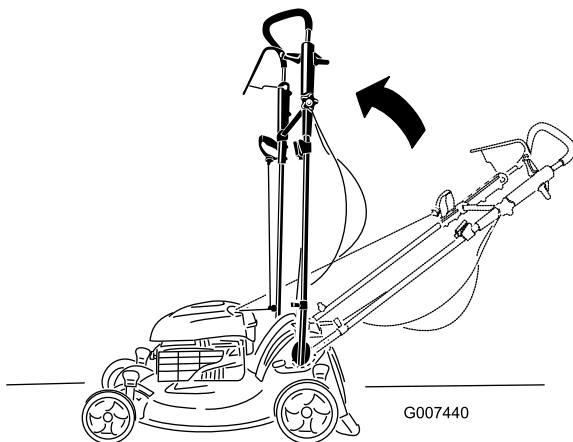

Figure 54
2. Move the handle to the upright position (Figure 54).